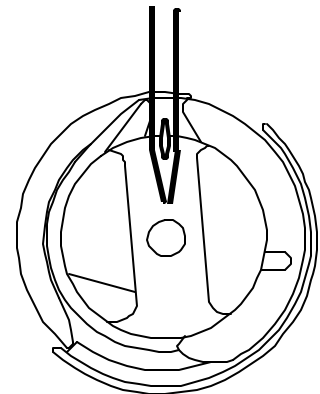

Figure 4
18. Before making any adjustments see if needle eyelet is positioned halfway through hook basket. See Figure 4.